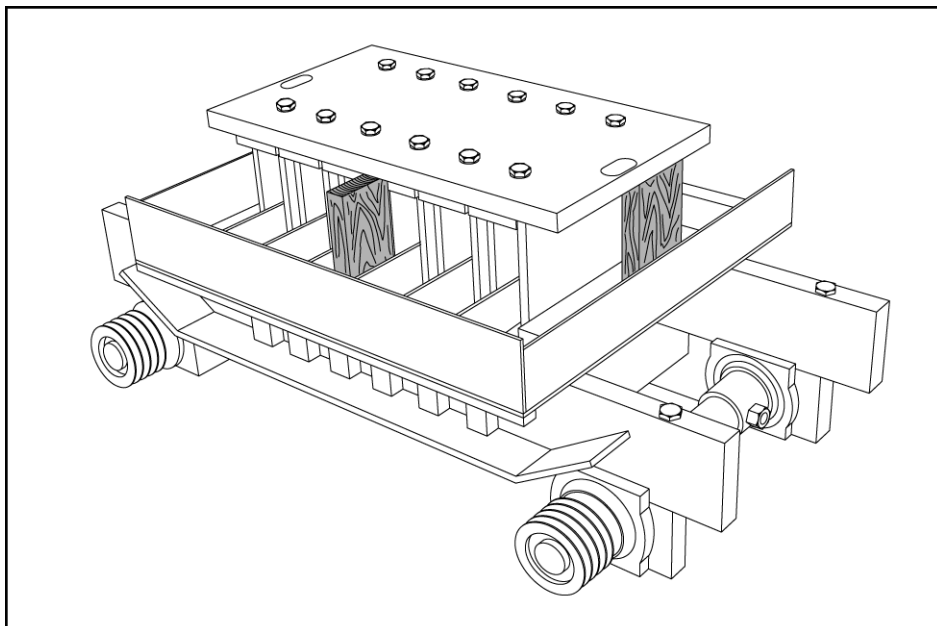

Figure 5.11 STRIPPER HEAD POSITIONED IN MOLD
- 5.4.9 Place stripper head down in mold using two pieces of 2" x 4" x 8" wood blocking, and one piece of 2" x 4" x 7-1/2" to assure a space between stripper head plate and mold top plate. Use the 8" blockings in the rear corners and the 7-1/2" blocking in the front center to clear bolt holes in the stripper head top plate (see figure 5.11).